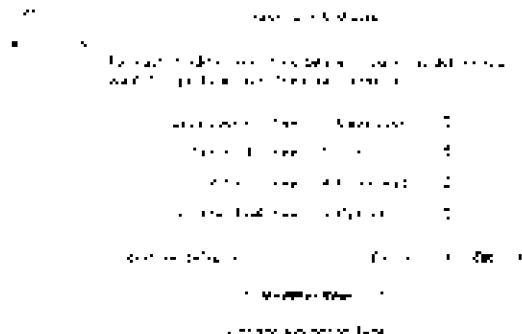

Figure 2-3:
3. Select Command from the Option Key menu, as shown in Figure 2-3.